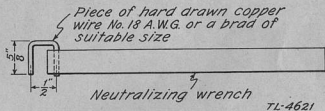

FIGURE 27.—Substitute air trimmer wrench.
- (1) *Equipment required.*—(a) Signal generator such as I-72-().
- (d) RCA 12, 636 air trimmer wrench or a substitute such as shown in figure 27.